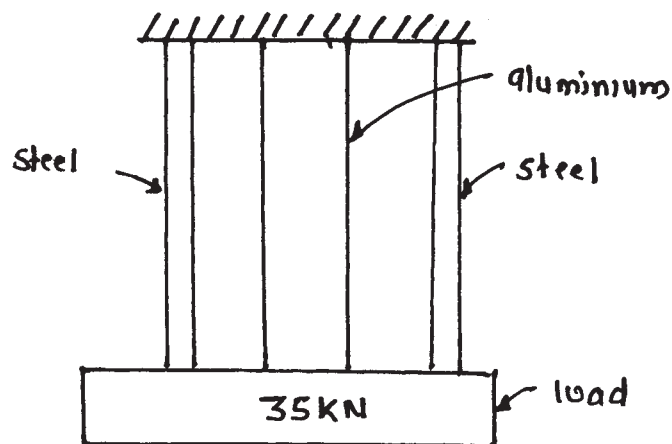

Fig. No. 3
- a) A block is shown in Figure No. 3 weighing 35 kN supported by three wires. The outer two wires are of steel and have an area of 100 mm^2 each, while middle wire of aluminium has an area of 200 mm^2 . Calculate stresses in aluminium and steel wires, take $E_s = 200$ GPa and $E_a = 80$ GPa.